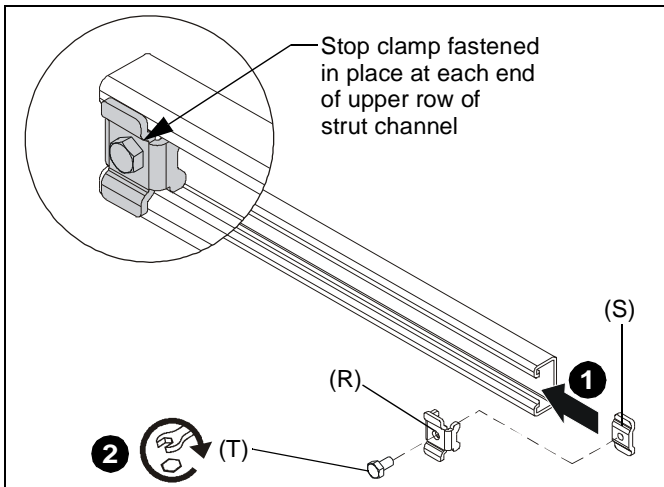

Figure 6
1. On the top rail, slide one inner stop clamp (S) into end of strut channel section. (See Figure 6)
2. Fasten outer stop clamp (R) to inner stop clamp (S) using one 1/4-20 x 1/2" hex head screw (T). (See Figure 6)